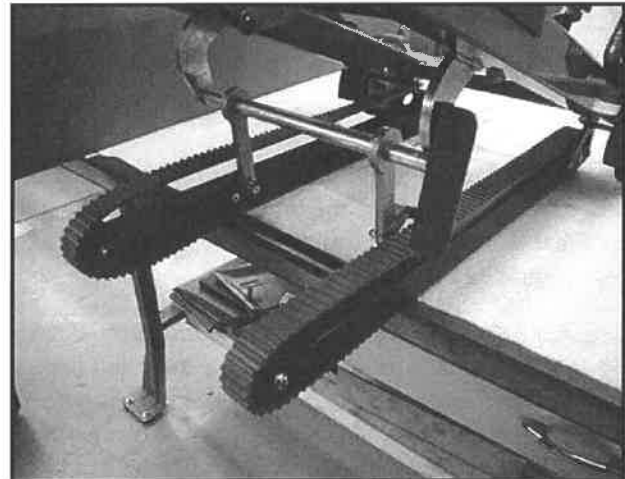

Figure 34 - Chair Positioned for Tensioning Procedure. (See Step 1 for alternate position.)
1. Open the track and lay the chair on its back on a workbench as shown in Figure 34